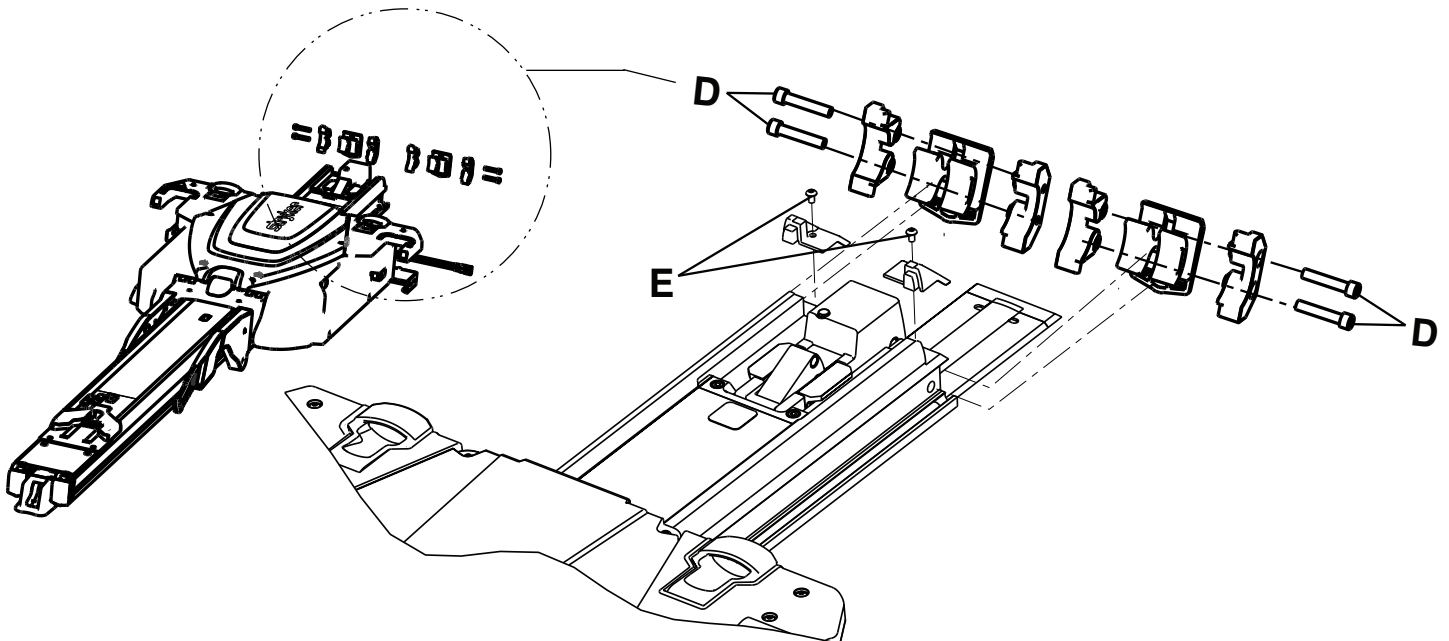

Figure 4 – Trolley screws
6. Using a T25 Torx driver, remove the two screws that secure the transfer trim (E) (Figure 4).
7. Using a 3/16" hex wrench, loosen (do not remove) the four socket head cap screws (two on each side) (D) that secure the dead stops to the transfer assembly (Figure 4).